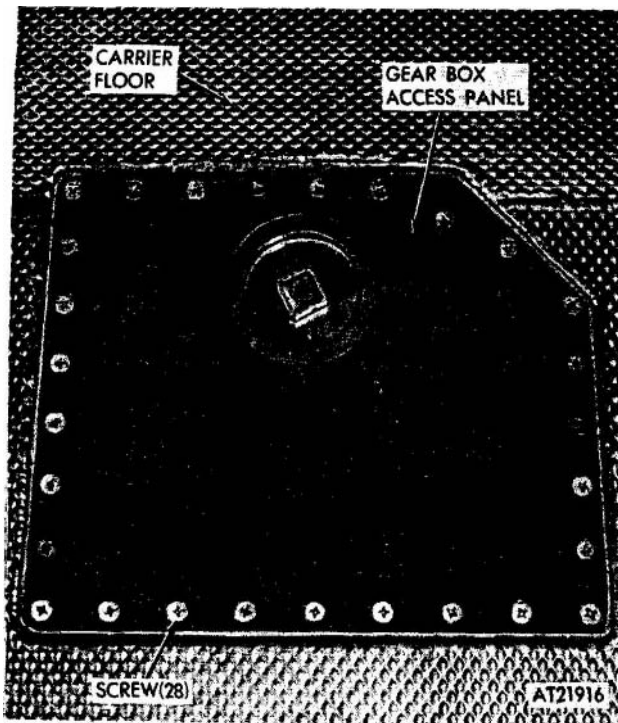
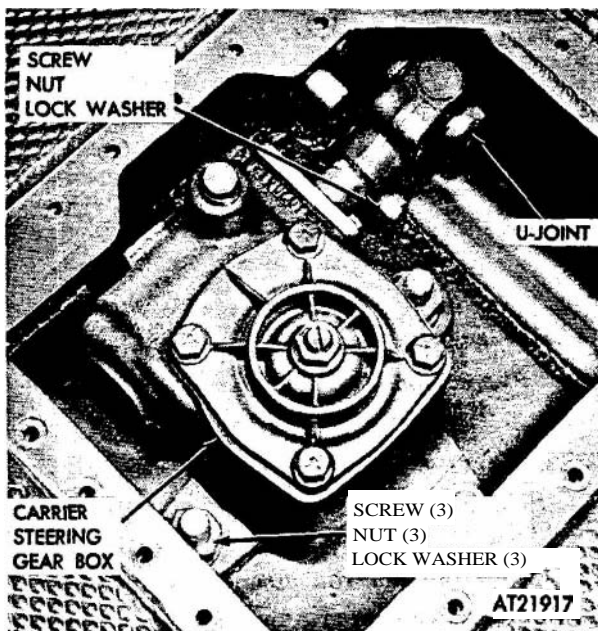

Figure 2-263. Carrier steering gear box access panel, removal and installation.
Figure 2-264. Carrier steering gear box, removal and installation.
(1) Align steering wheel centering marks with wheels in a straight-ahead position.
(2) Remove panel by removing twenty-eight screws securing steering gear box access panel (fig 2-263).
(3) Remove screw, nut, and washer securing pitman arm to steering gear shaft (refer to para 2-176).
(4) Remove screw, nut, and washer securing steering torque tube universal joint to steering input shaft (fig 2-264).
(5) Slide steering torque tube forward to clear steering gear box.
(6) Remove three screws, nuts, washers, and lock washers securing steering gear box to carrier.
(7) Remove steering gear box by lifting steering gear box up and out of pitman arm.
- (1) Center input shaft of steering gear box.
- (2) Position gear box to pitman arm with slot in arm aligned with groove in steering gear box shaft (fig 2-264).
(3) Secure gear box to carrier with three screws, lock washers, and nuts. Torque nuts to 70-100 **lbs-ft.**
(4) Secure pitman arm to steering gear box with screw, washer, and nut. Torque nut to 95.120 lbs-ft.
(5) Slide steering torque tube to the rear until universal joint goes onto steering gear input shaft. Secure with screw, washer, and nut. Torque nut to 15-24 lbs-ft.
(6) Ensure that aligning marks on steering wheel hub and steering column align with wheels in a straight ahead position. Report to Direct Support for wheel alignment.
(7) Service gear box (refer to LO 9-2320-242-121).
(8) Check for synchronized front-rear steering (refer to TM 9-2320-242-10 for procedure).
(9) Install access panel and secure with twenty-eight screws.
(10) Test drive vehicle to check for proper operation of steering gear box (refer to TM 9-2320-242-10 for operating instructions).